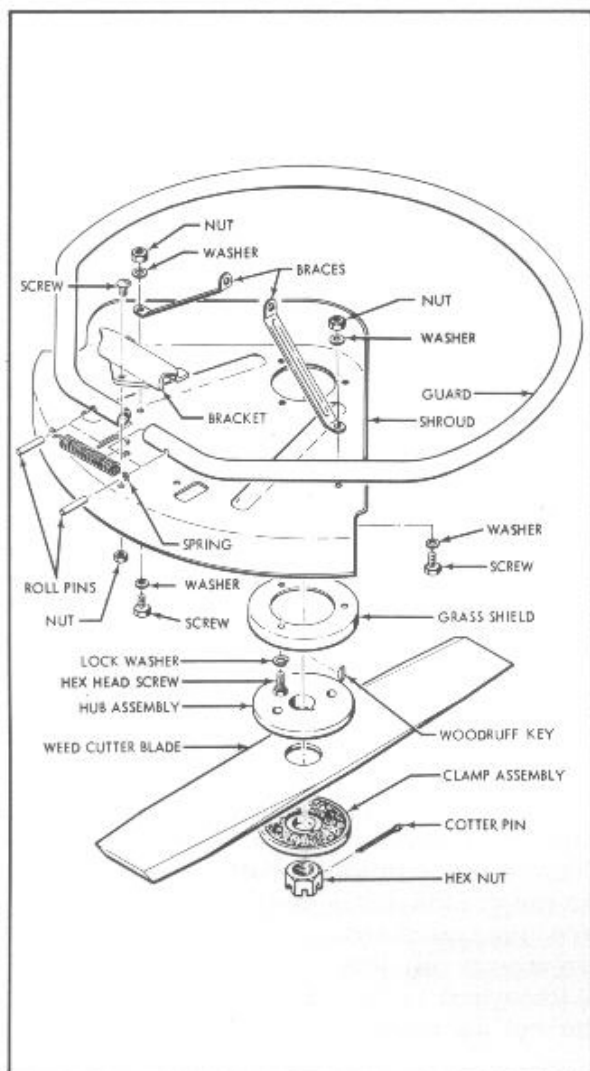

Figure 13. Installation of Weed Cutter Kit 57630
1. Assemble the Shroud Assembly onto the Guard Assembly with the Bracket, three 10-24 x 3/8-inch long screws (P/N 100415), and three 10-24 hex nuts (P/N 101191). (See Figure 13.) Place the assembled parts on the gear housing drive shaft.
3. Mount the two Shroud Braces on the Shroud Assembly with two 1/4-20 x 1/2-inch long screws (P/N 100474), four plain washers (P/N 100005), and two 1/4-20 hex nuts (P/N 103242). See Figure 13. Attach the Shroud Braces to the flanged clamp on the gear housing by utilizing the screw and nut already on the clamp.